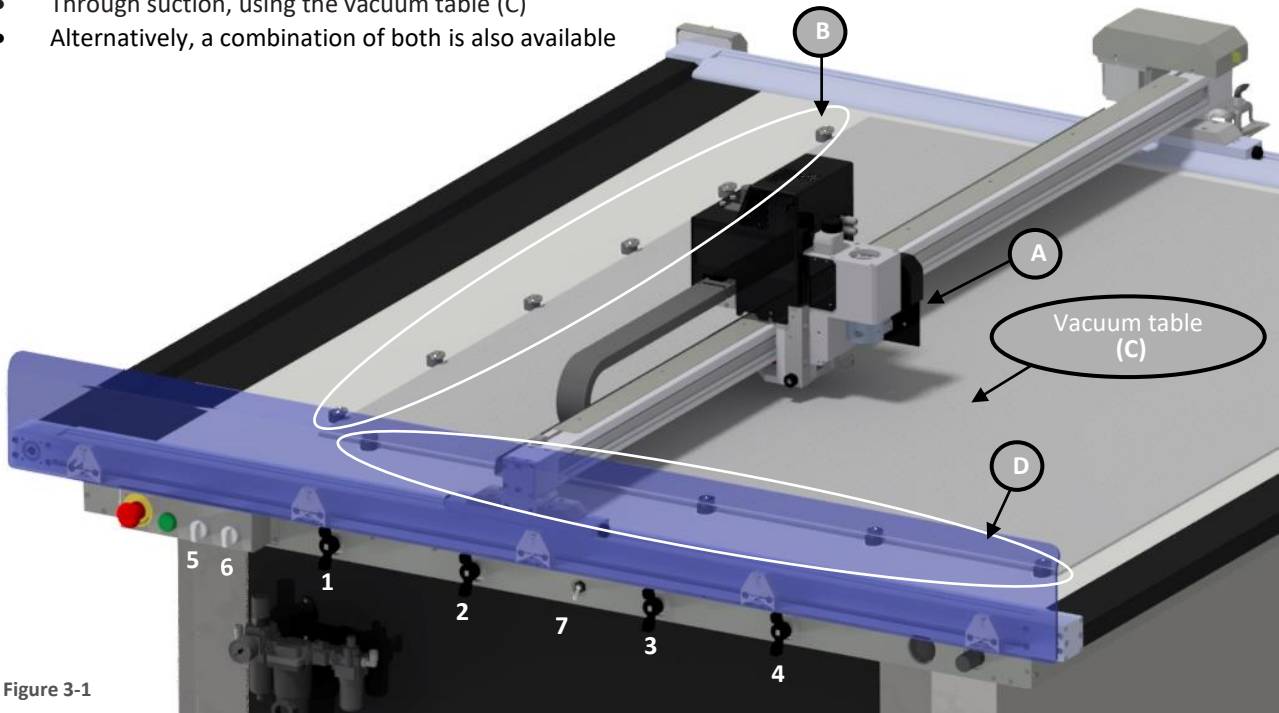

Figure 3-1
Invicta is equipped with a camera (A) Figure 3-1 and a software (available as an option) for printing crop mark detection. The camera in combination with the Opticrop software (Optional) allows the detection of printing crop marks, the repositioning of the vector file and consequently the creation of cuts and creases on pre-printed materials.